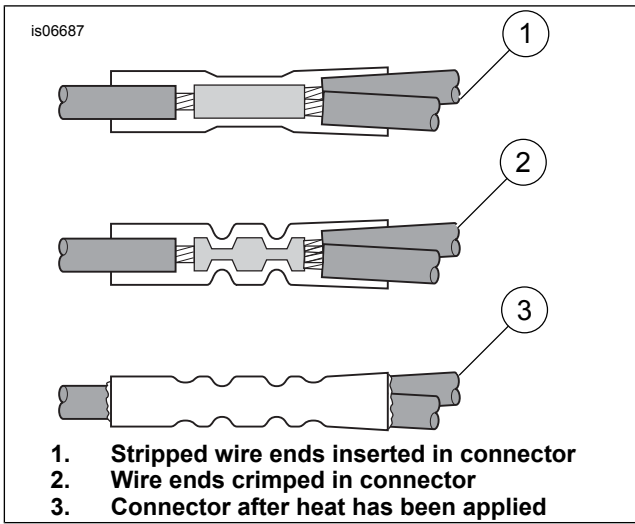

Figure 6. Installing Sealed Butt Splice Connectors
20. See Figure 6 connector appendix of the service manual. Slide the heat-shrink tubing over the black wire of the kit harness, and crimp the electrical connector to the wire with a Crimp Tool, Part No. H-D 38125-8.
21. Bring both lamp wires (4) to the connector. Trim the wires, allowing approximately 1 inch (25 mm) of the wire to extend past the butt splice connector. Trim the conduit (5) approximately 1-1/2 in. (38 mm) back from the end of the wire.